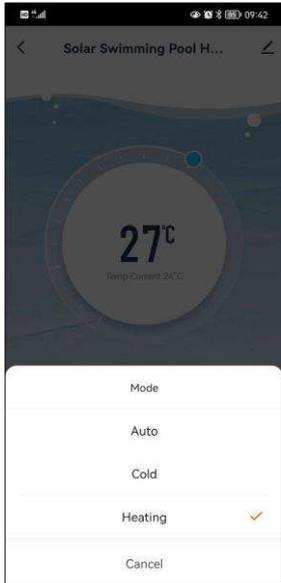

Fig.20 Mode changing interface
- You can switch the unit among heating, cooling and automatic mode under mode changing interface. And the home page will display the icon corresponding to the selected mode (Fig.20). Note: Mode switch operation is invalid in shutdown state.